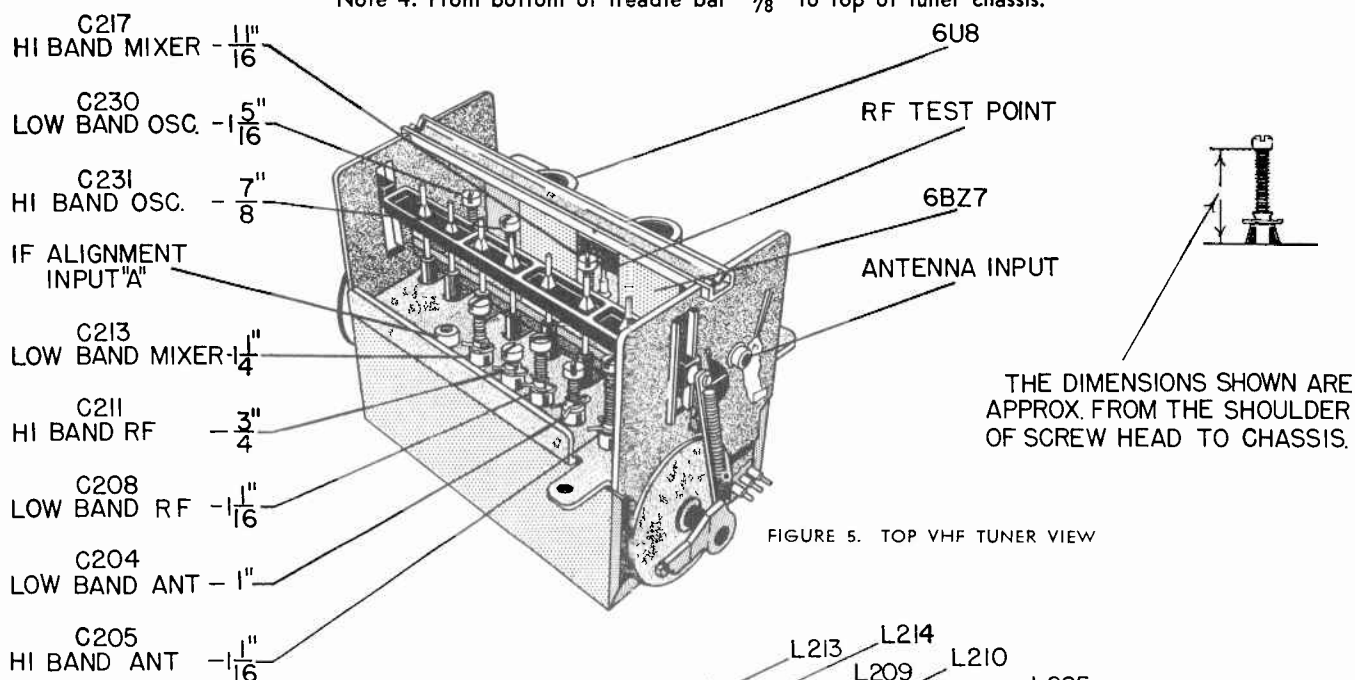

FIGURE 5. TOP VHF TUNER VIEW
1. Preset trimmer screws as shown in Figure 5.
- (A) With Band Sw. in Low Band pos., set treadle bar to top of stroke (Cores furthest out of coil)
- (B) Adjust Cores: L200, L201, L205, L206, L209, L210 to 1-1/2" from cores to end of coil form.